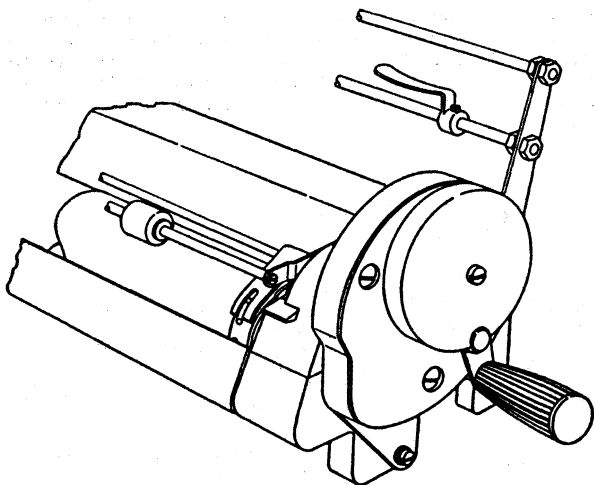

Figure 3. Form Line Selector Mounted
18. Completed view of form line selector (Figure 3).